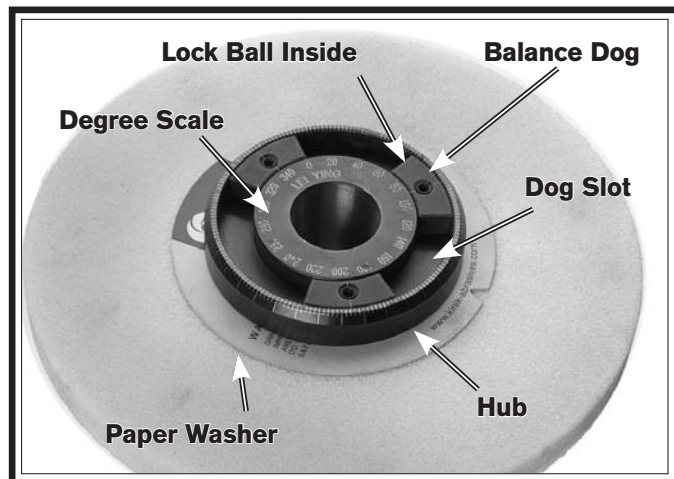

Figure 34. Grinding wheel hub.
4. Without letting any of the dogs or the lock balls they contain fall out of the hub, use a 2.5mm hex wrench to loosen the dogs and position them at the 0°, 120°, and 240° degree locations as indicated by the degree scale on the hub (**Figure 34**).